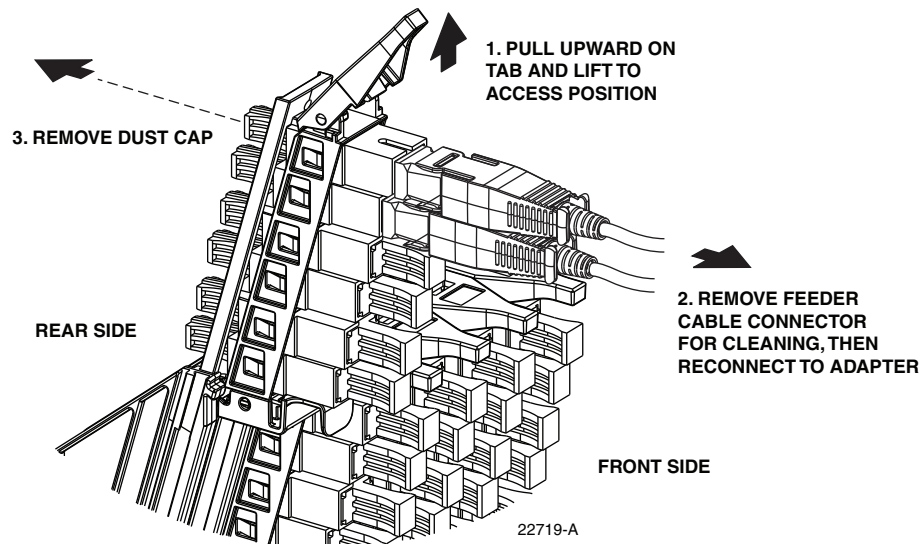

Figure 13. Adapter Pack Raised to Access Position
2. Pull upward on the small tab on top of the adapter pack and lift the adapter pack to the access position as shown in Figure 13